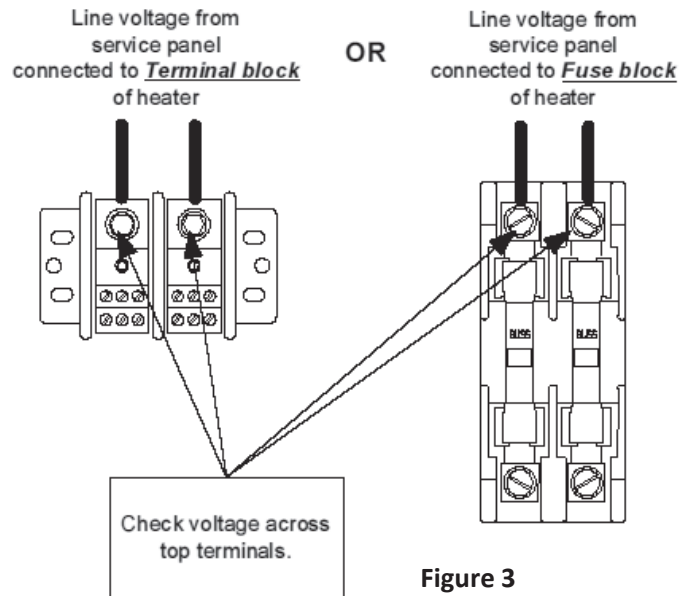

Figure 3
6. Use caution and check voltage across top terminals where service voltage connects to water heater (see Figure 3).